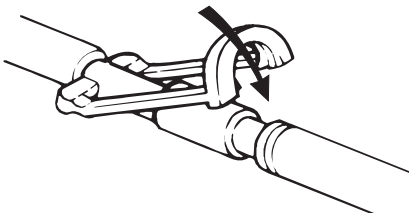
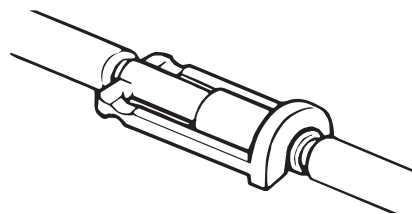

Figure 1-5: Insert fittings
Figure 1-6: Lock ring
2. After you insert fittings (Figure 1-5 on page 10), snap the lock ring into place (Figure 1-6 on page 10)